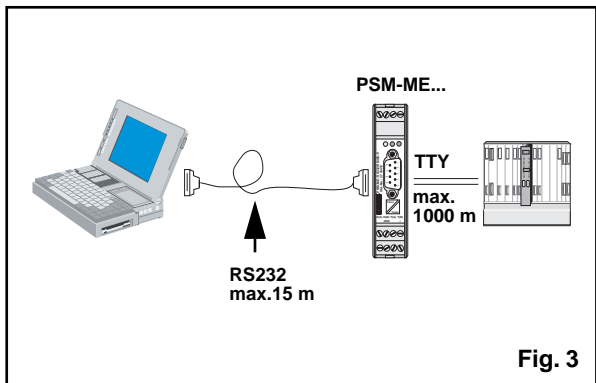

Fig. 3
- Temporary programming and parameterizing connection (fig. 3)